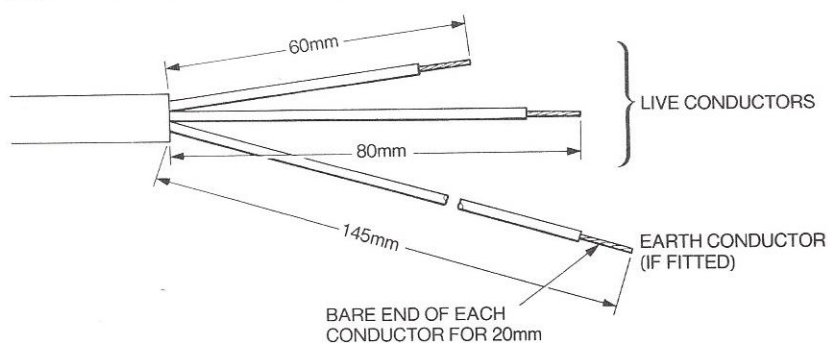

Figure 1 Preparing the Power Supply Cord
- 3.1.7 Prepare the new Cord by slipping the Cord Guard over it and cutting back the outer sheath and leads to the dimensions shown in Figure 1. Having bared each lead for 20 mm as shown, solder the ends and form them into hooks around the shank of the Switch terminal screw.